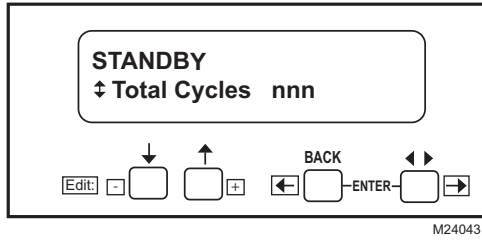

Fig. 44. SAVE Function.
4. SAVE push-button. See Fig. 44–46.